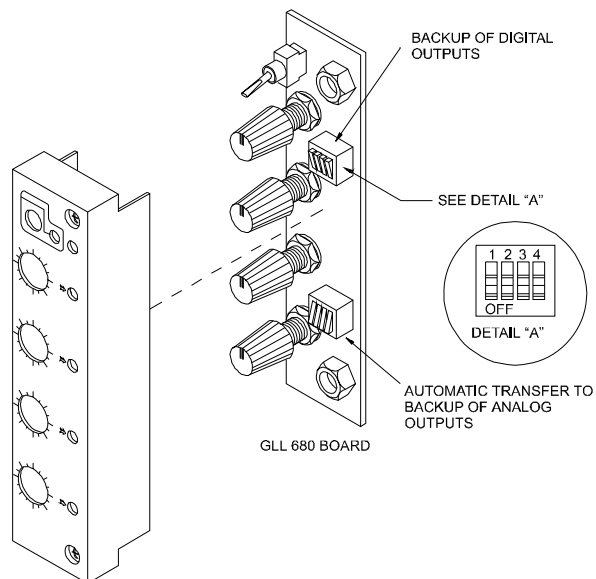

Fig. 1.3 - Dip Switches on GLL 660 Backup Station Board
2. **AUTOMATICALLY** - With the <AUTO/BACKUP> switch in the "AUTO" position, a power supply fault in the controller, or a fault of the Processing Unit (CPU) switches the command to the backup station. Each one of the four current signals can remain at the last value generated by the controller or go to the value adjusted on the respective knob. Definition of the switching mode is made independently for each output by means of DIP switches on the lower part of the GLL 660 board (Figure 1.3)
Should any main board's fault occur when the output is out of the potentiometer actuation range (3.6 mA > output > 20.4 mA), it is necessary to switch the controller to backup, setting the DIP switch (on the lower part of the GLL 660 board - Figure 1.3) to **ON** position.
Furthermore, when the controller is out-of-order, the backup station also defines the states of the first four digital outputs (terminals **3A**, **4A**, **5A** and **6A**). The state of these outputs, in case of transferring to the backup station, is defined by four DIP switches existing on the upper part of the GLL 660 board, see Figure 1.3.